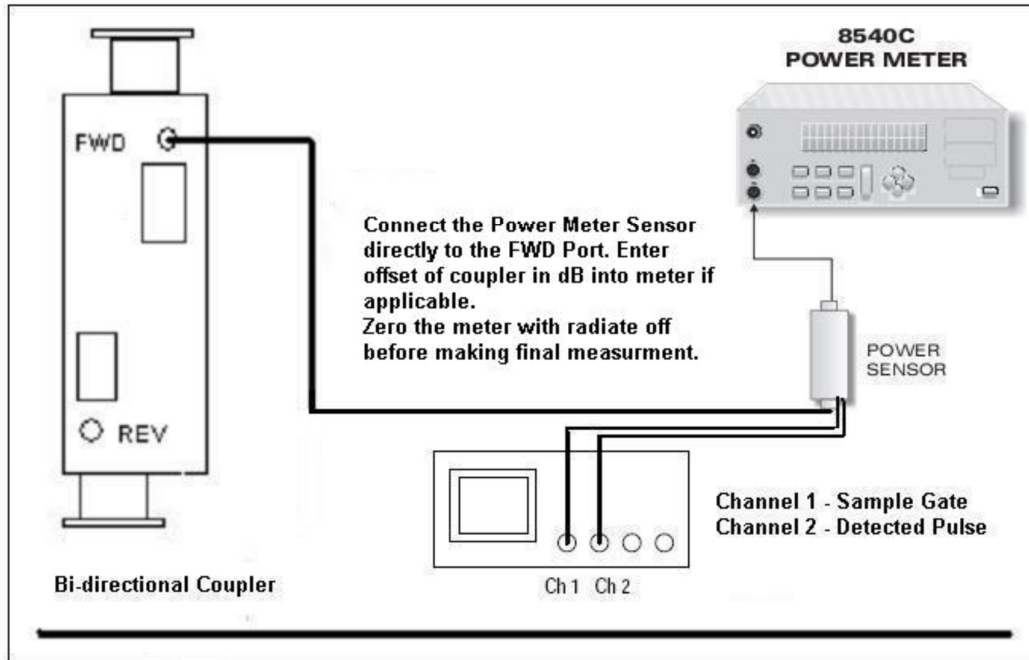

Figure 18. Test Setup for Peak Power Measurements
11. Connect the power sensor/detector to the forward port of the bidirectional coupler in the TX/RX cabinet. Attached the sensors detected pulse and sample pulse to the oscilloscope per Figure 18.